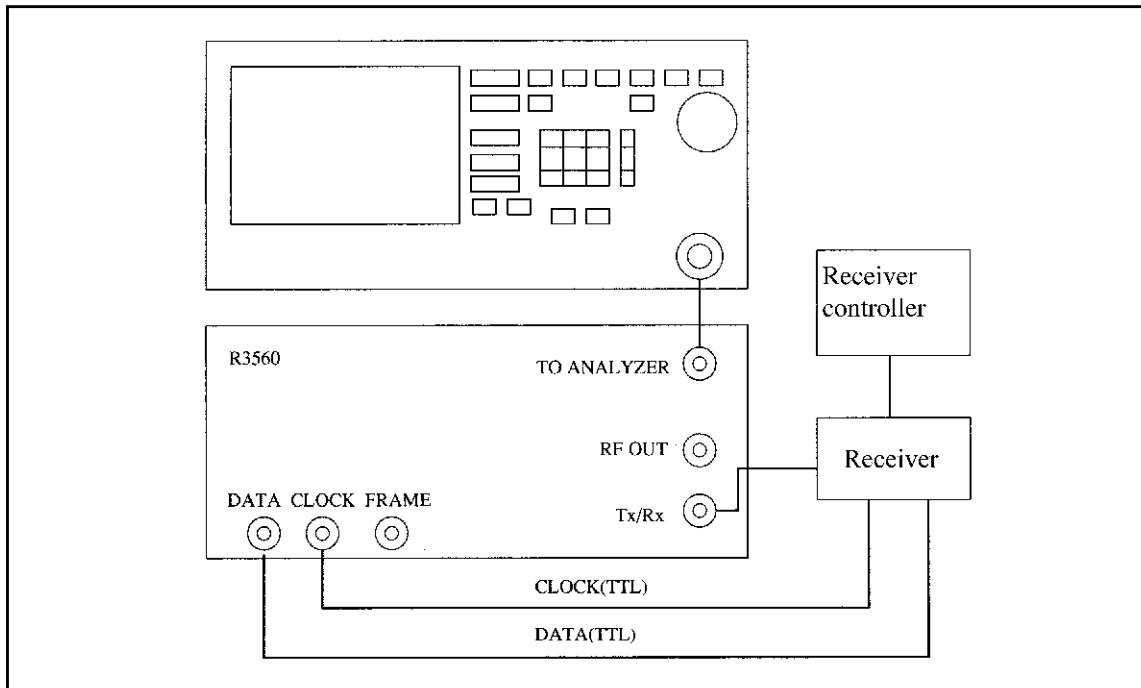

Figure 3-12 BER measurement connection
1. Connect as shown in Figure 3-12.